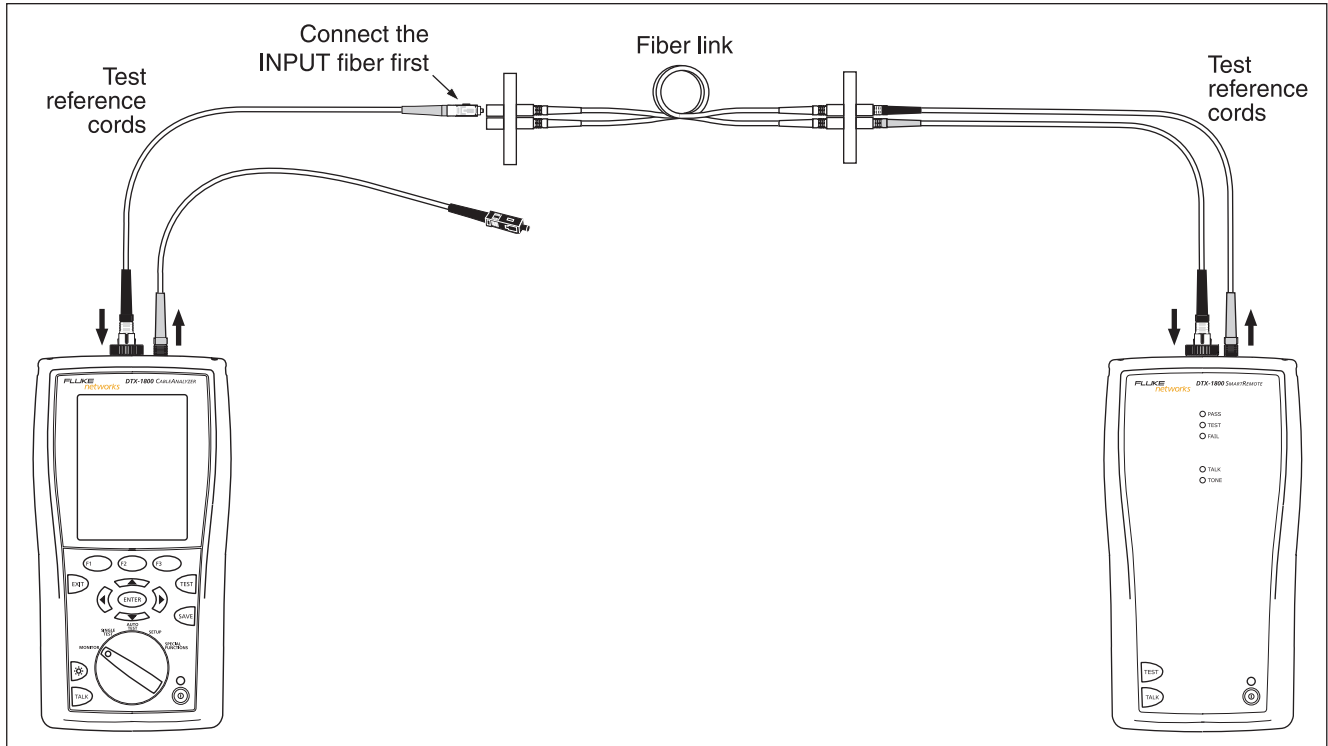

Figure 8-25. Using FindFiber in Smart Remote Mode
- 3 Clean all connectors; then make the connections shown in Figure 8-25.